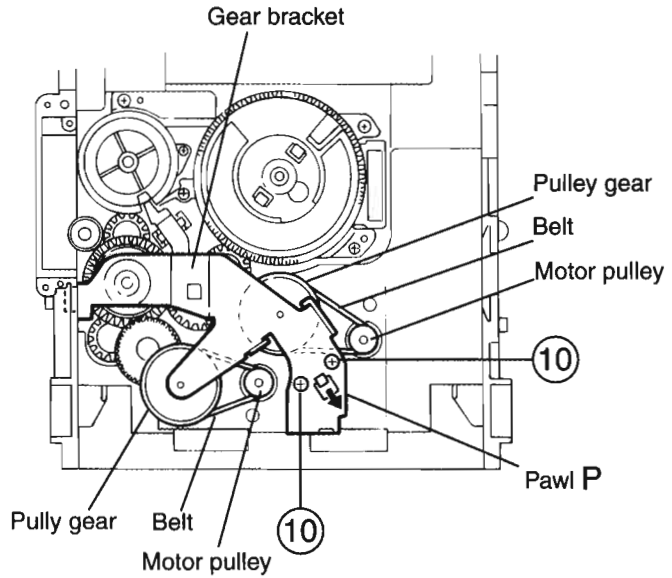

Fig.19
(See Fig.19~22)**
(See Fig.19).
4. Remove the belts respectively from the right and left actuator motor pulleys and pulley gears(See Fig. 19).